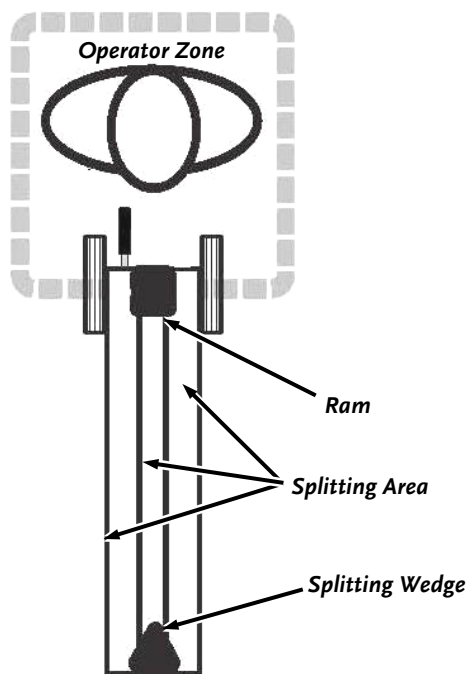

Figure 4
- It is important that the Air Bleed Screw is open when you use the Electric Log Splitter (**Figure 4**). Open the Air Bleed Screw by turning it counter-clockwise three to four times. Failure to open the Air Bleed Screw before using could damage the Electric Log Splitter.
- When operating the Log Splitter, make sure you are positioned in the safe operating area (OPERATOR ZONE) as shown in **Figure 4**. You must stay in the safe operating area at all times when the Ram is in motion (whether extending or retracting). Never place any part of your body into a position that causes an unsafe operating condition.